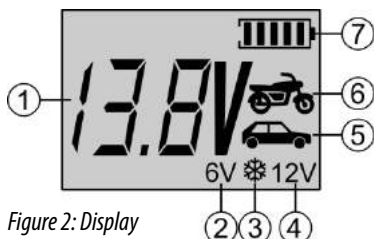

Figure 2: Display
At the beginning of the charging process, if necessary, e.g. in the case of sulphated batteries, an attempt is made to regenerate the connected battery with the help of short pulsating current surges. This revitalisation function is automatic and cannot be set directly. Depending on the charging state of the battery, the device adapts the charging current in order to best charge the connected battery. The specified maximum charging current is only used during the main charging phase. Shortly before the full charging capacity is achieved, the device switches to a lower charging current. This ensures that the battery is gently and optimally charged to full capacity. The battery symbol (7) (Figure 2: Display) shown on the display indicates the current filling level of the battery.